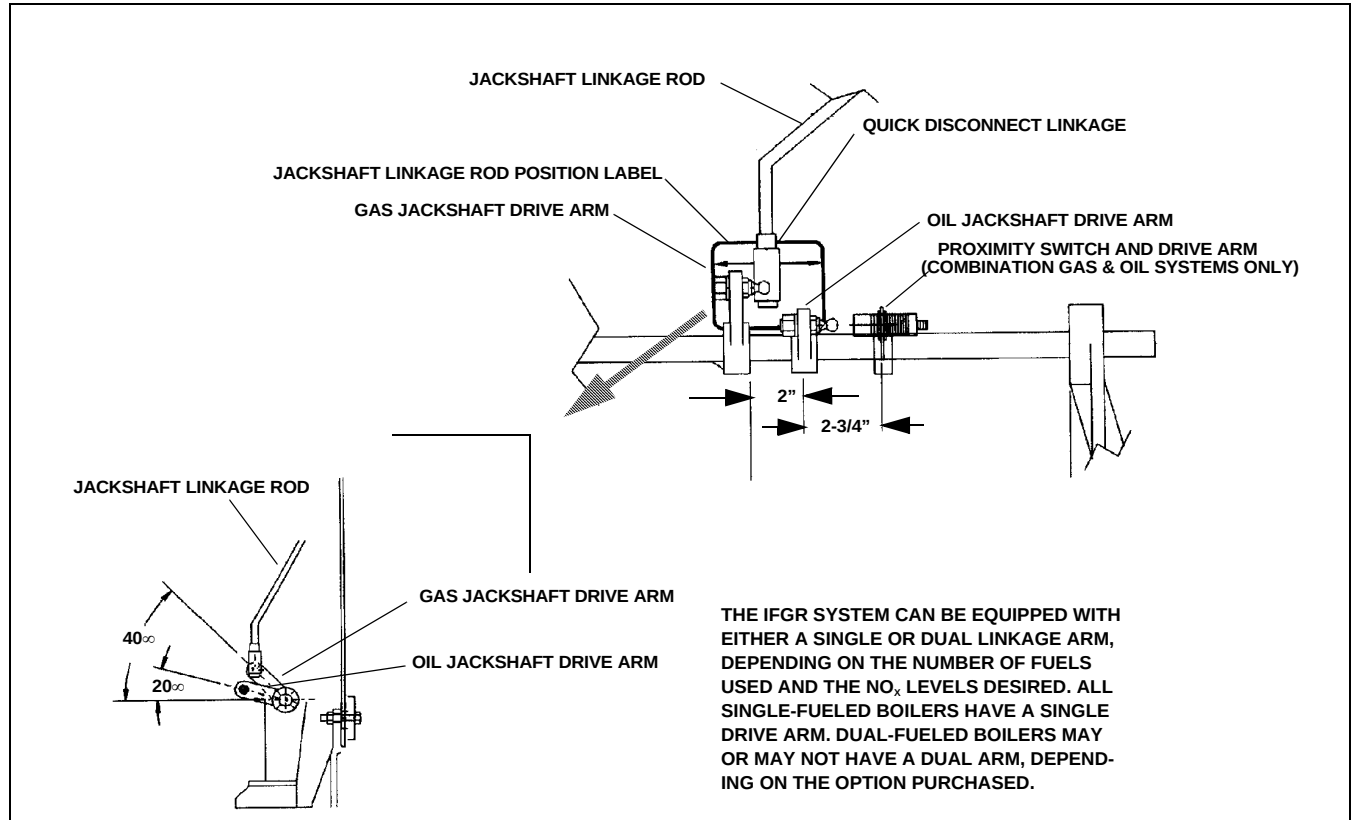
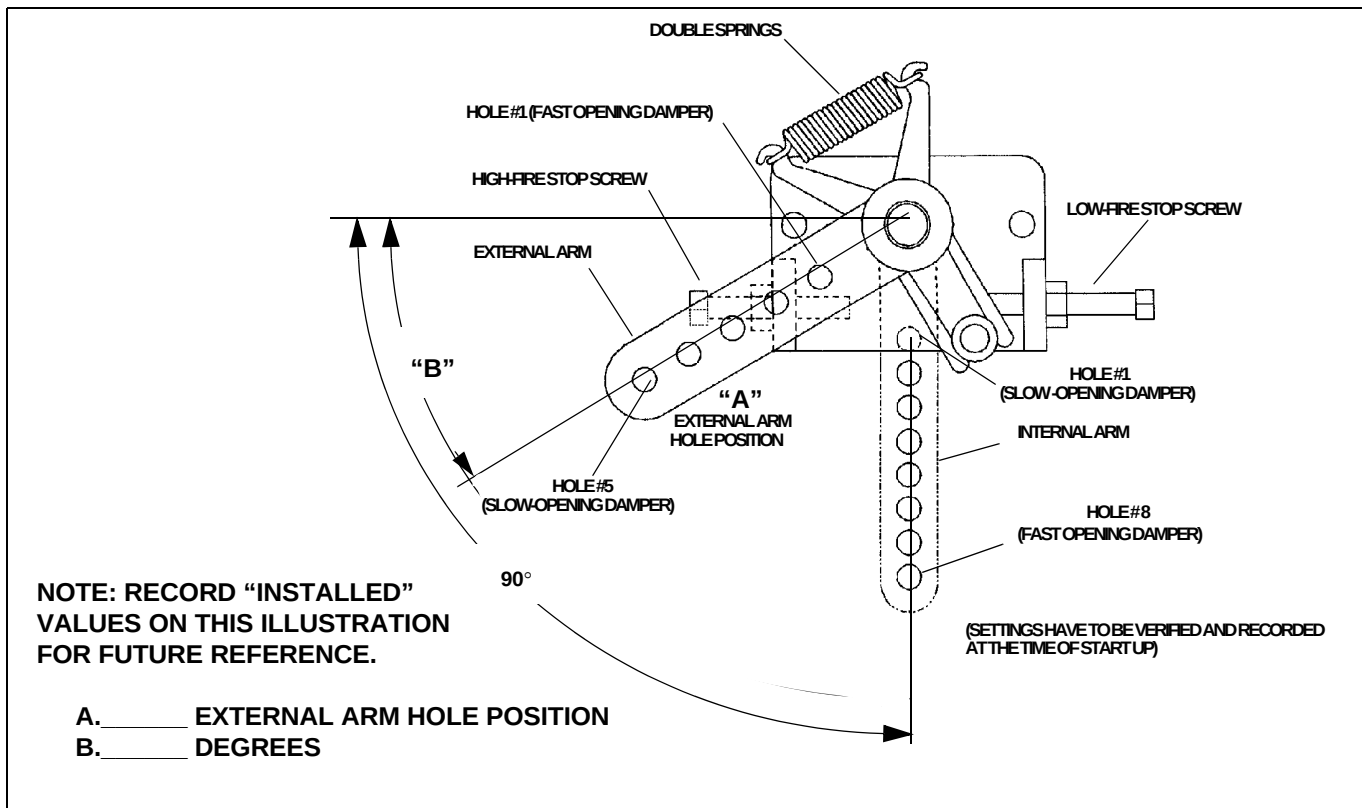
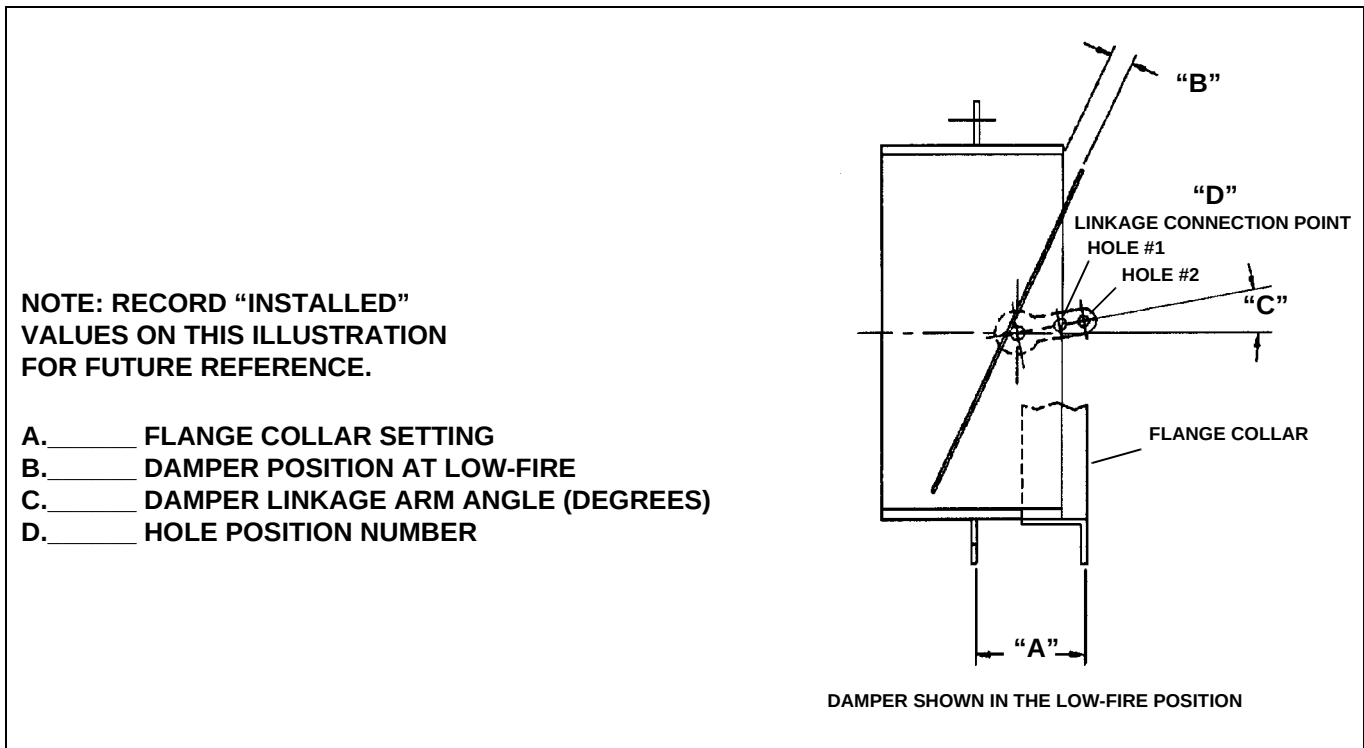

Figure 5-13 Jackshaft Linkage Settings
Figure 5-14 Overtravel Linkage Settings
Figure 5-15 Flange Collar and Damper Settings (Top View)
It is recommended that the final “installed” settings as noted on **Figure 5-13**, **Figure 5-14** and **Figure 5-15** be recorded for future reference. The settings should be marked on the linkage as well.
3. Verify that all the IFGR components are set to the settings recorded on the Start Up report or in **Figure 5-13**, **Figure 5-14** and **Figure 5-15** (as noted by the Cleaver-Brooks authorized representative during original set up). Be sure that all linkages are secure.